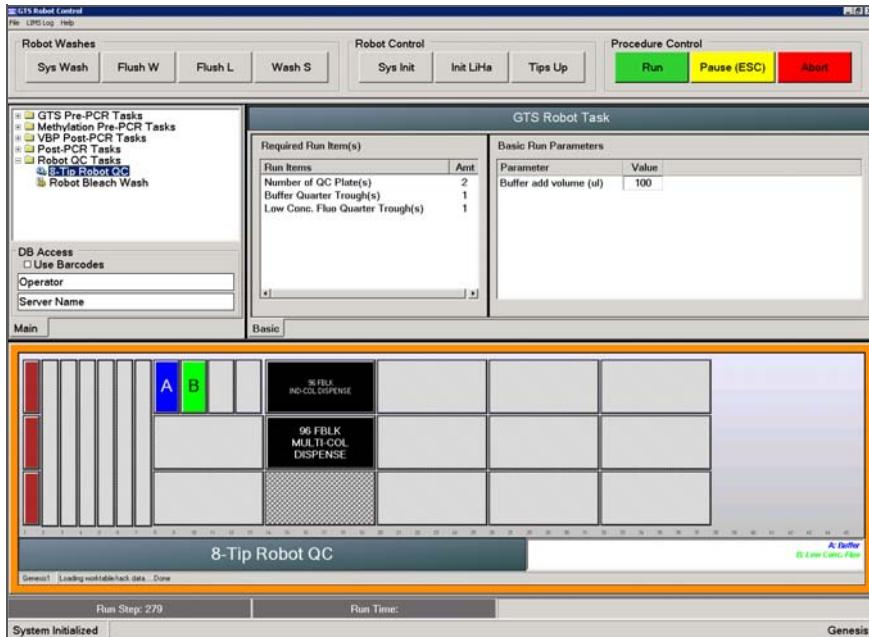

Figure 5 8-Tip Robot QC Task
3. Select Robot QC Tasks | 8-Tip Robot QC (Figure 5).
4. Add 35 ml fluorescein dilution buffer to a quarter reservoir. Place the reservoir in position A of the reservoir frame, as shown on the robot bed map (Figure 5).